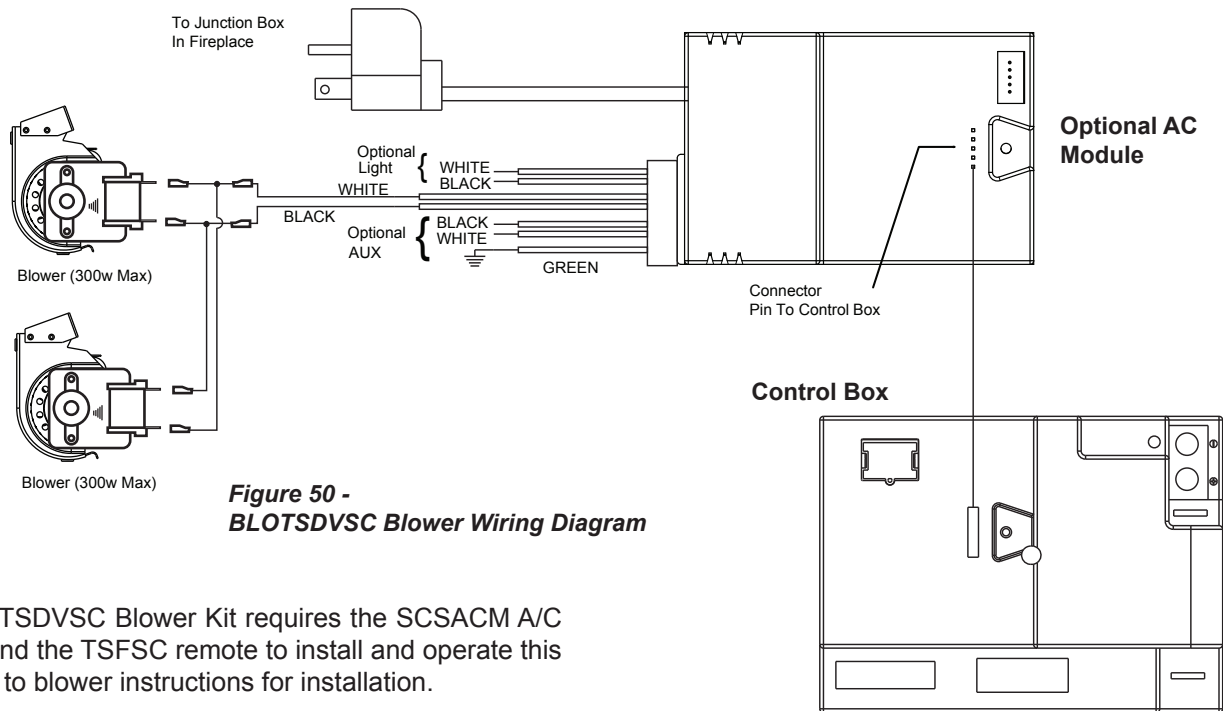

Figure 50 - BLOTSDVSC Blower Wiring Diagram
4. To check gas pressures at valve, turn captured screw counter clockwise 2 or 3 turns and then place tubing to pressure gauge over test point. Turn unit to high. *Figure 50.* After taking pressure reading, be sure and turn captured screw clockwise firmly to reseal. Do not over torque. Check test points for gas leaks.